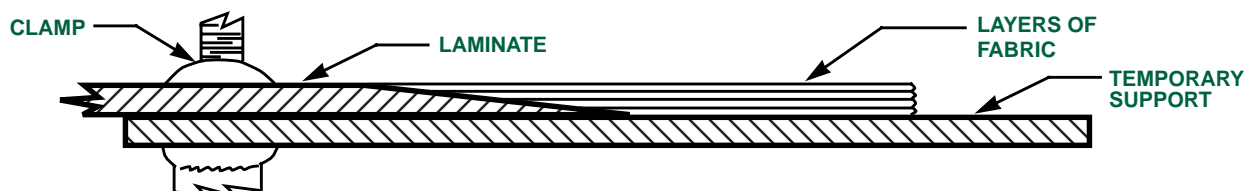

FIGURE 5 - LAY UP OF FABRIC
- Step 8. Build up the area being extended with layers of impregnated fabric to a thickness one layer greater than that of the part (see Figure 5).
- Step 8. Build up the area being extended with layers of impregnated fabric to a thickness equal to that of the part (see Figure 5).